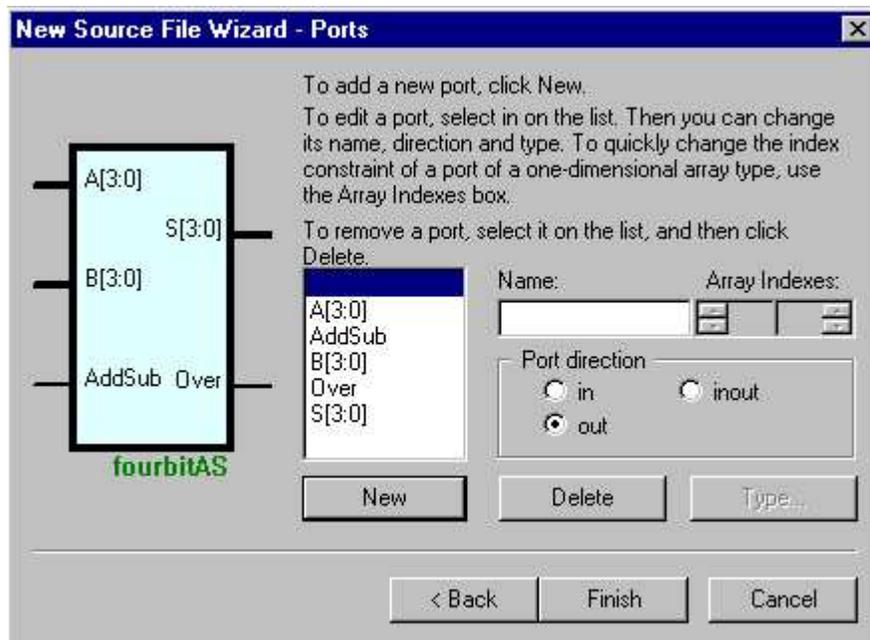

Figure 7
- Using the methods described here and in Tutorial #1, add two 4-bit inputs named “A” and “B”, add one 1-bit input named “AddSub”, add one 4-bit output named “S”, and a 1-bit output named “Over” (Figure 7). Then, click Finish.